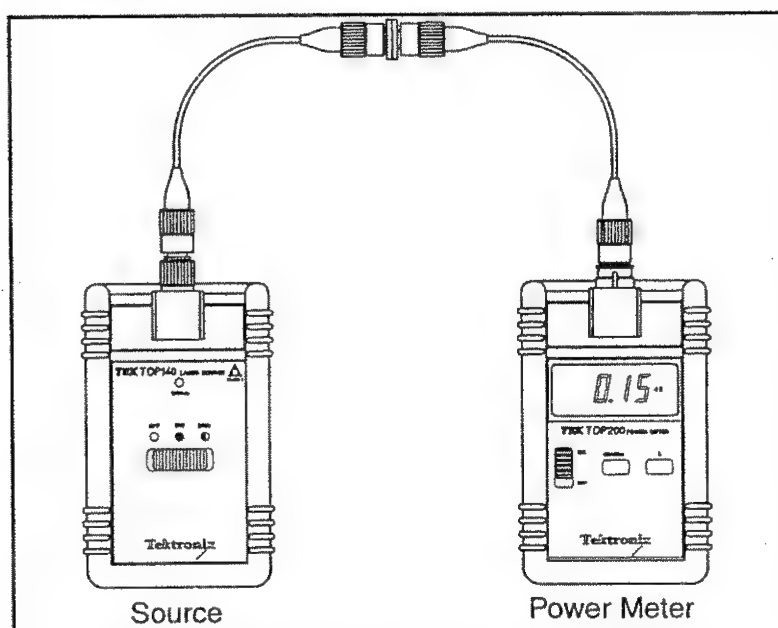

Fig 4.3 Measuring the Insertion Loss of a Connector/Cable
- D) Disconnect the cable end from the power meter and insert the cable to be tested using a mating adapter. The power meter now reads the connector/cable loss in dB. The example of Figure 4.3 displays a connector loss of 0.15dB.